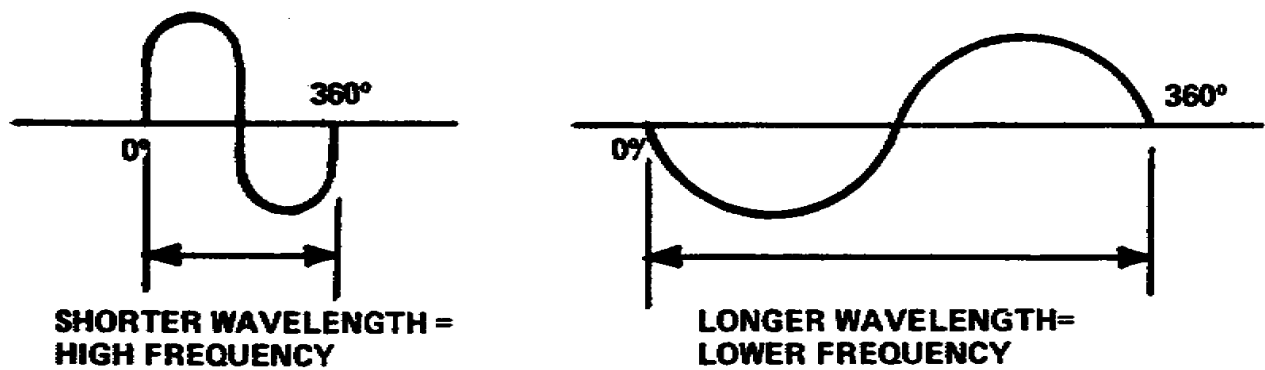

Figure 1-9. Wavelength
(1) For example, from 1 to 1a equals one complete cycle or from 2 to 2a equals one complete cycle. The frequency of a wave equals the number of complete cycles per second (CPS) or Hertz (Hz). Scientists derived the term “Hertz” in honor of a German scientist who worked in electromagnetic theory in the 18th century. When talking about the frequency of a wave, we use the terms Hertz (Hz) and cycles per second (cps) interchangeably.
(2) The audio spectrum (or the range of frequencies humans can hear) consists of frequencies from 15 Hz to 20,000 Hz.
b. Wavelength denotes the second characteristic of sound and another part of a sine wave. All sound waves, regardless of their length, go from 0 degrees to 360 degrees in one complete cycle. The amount of distance from 0 degrees to 360 degrees when plotted as a sine wave determines the length of the wave or wavelength. Wavelength depends on the frequency. The higher the frequency, the greater the number of cycles per second. The greater number of cycles per second requires a shorter distance from 0 degrees to 360 degrees for one complete cycle. This in turn produces a shorter wavelength (fig 1-9).